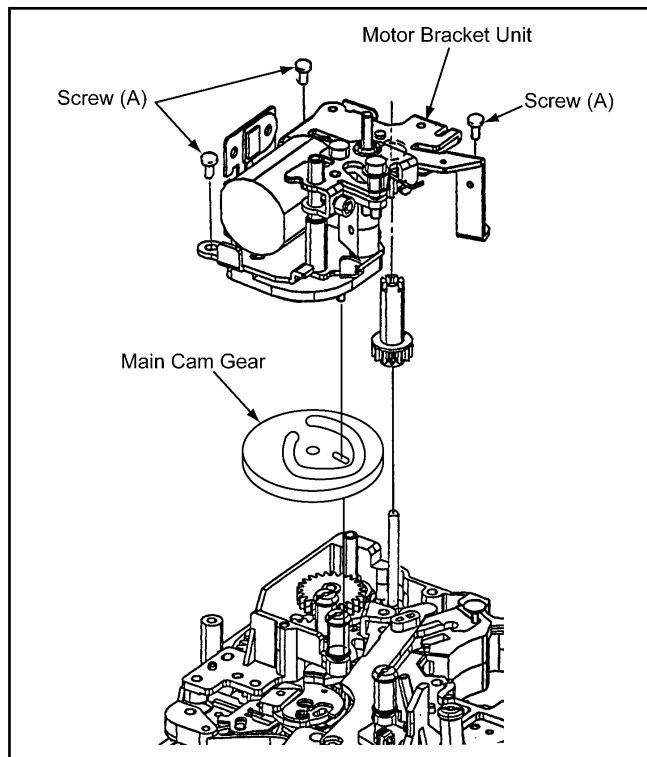

Figure 2-9-1
5. Unscrew the 3screws (A) as shown in Figure 2-9-1, and remove the Motor Bracket Unit.